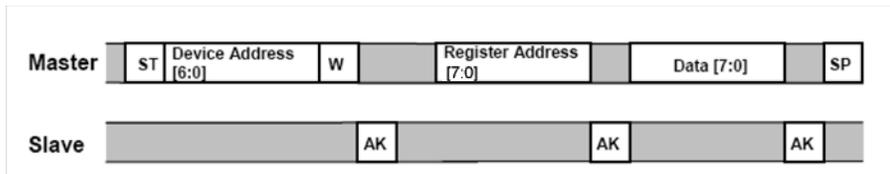

Figure 9. Single Byte Write - The Master (MCU) is writing to a single register of the MMA7456L
To start a write command, the Master transmits a start condition (ST) to the MMA7456L, slave address (\$1D) with the R/W bit set to "0" for a write, the MMA7456L sends an acknowledgement. Then the Master (MCU) transmits the 8-bit address of the register to write to, and the MMA7456L sends an acknowledgement. Then the Master (or MCU) transmits the 8-bit data to write to the designated register and the MMA7456L sends an acknowledgement that it has received the data. Since this transmission is complete, the Master transmits a stop condition (SP) to the data transfer. The data sent to the MMA7456L is now stored in the appropriate register. See Figure 9.